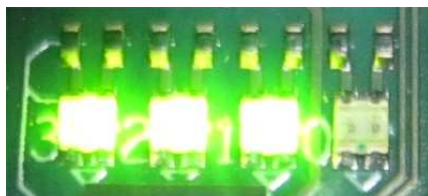

Figure 9 LED Status during Write/Read processing
- Set 6-bit DIPSW to select test pattern, test size, and test speed. Then, press WrStart for recording test data to RAID0. LED[1]-LED[3] will be ON during write transfer, as shown in Figure 9. Wait until write operation complete by monitoring all LEDs OFF.